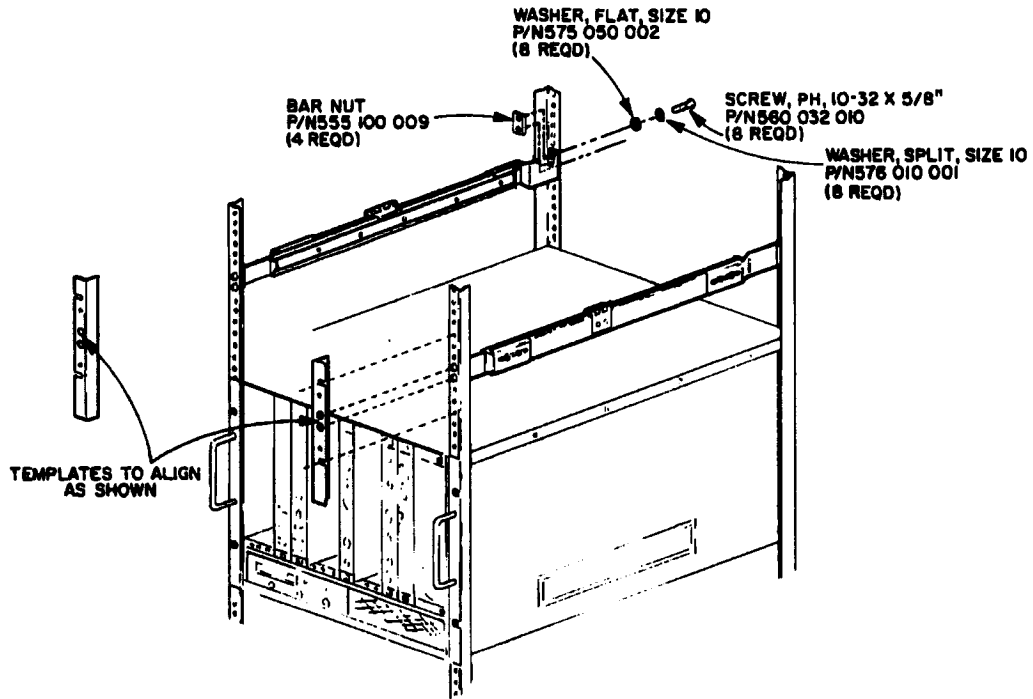

Figure 2: Rack Assembly
2. Use left ear (P/N 707292002) and right ear (P/N 707292001) as templates. Place each ear against the rack using its center holes to determine height for mounting the cabinet member assembly. First secure the front mounting bracket of the cabinet member assembly to the rack. Then slide the rear mounting bracket to fit the rack as shown in Figure 2. Tighten the loose hardware for the rear bracket to cabinet member of slide. Leave all mounting hardware for brackets to rack a little loose for aligning the 7200A in the rack.